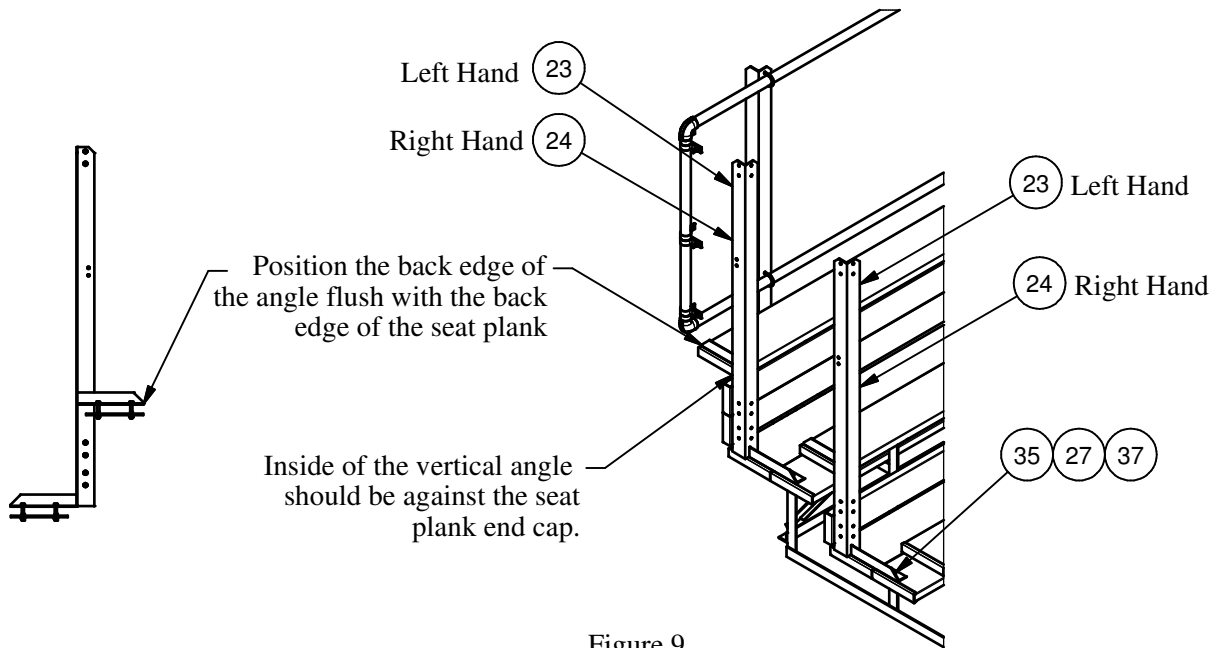

Figure 9
15. Install the side rail weldments onto the ends of the bleacher. Locate one vertical on the top row and one vertical on the 4th row. Position the verticals as shown in figure 9. Using the holes in the angles, drill the four 3/8" holes through the seat plank (2 holes) and the foot planks (2 holes). Attach the verticals using the 3/8" x 2.5" hex bolts and 3/8" whizlock nuts. Make sure the clamp plate is placed on the underside of the plank before installing the nuts. Tighten all bolts and nuts securely.